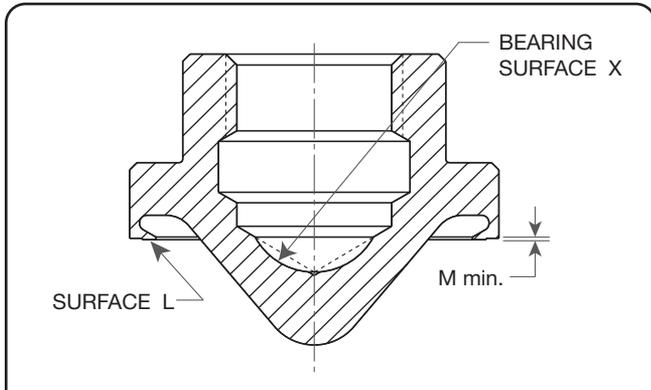

Figure 14: Disc
- (ii) The Thermodisc cannot be machined. If, after lapping, Dimension M, in Figure 14, does not meet the minimum specified in Table 5, the disc should be replaced.